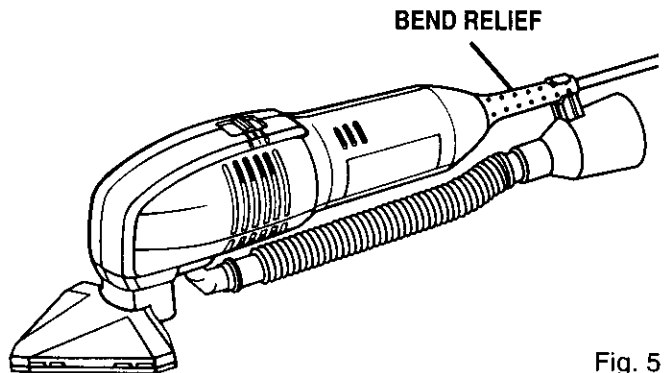

Fig. 5
- Clip top of Dust Access Hose to the bend relief of the sander's electric cord. See Figure 5.